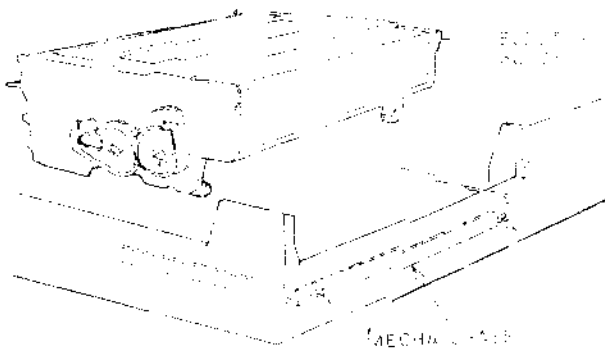

Fig. 4-2
- 1) Install the EJECTOR BLOCK to the MECHANISM CHASSIS as shown in Fig. 4-2.